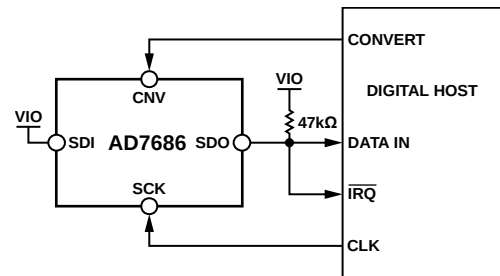
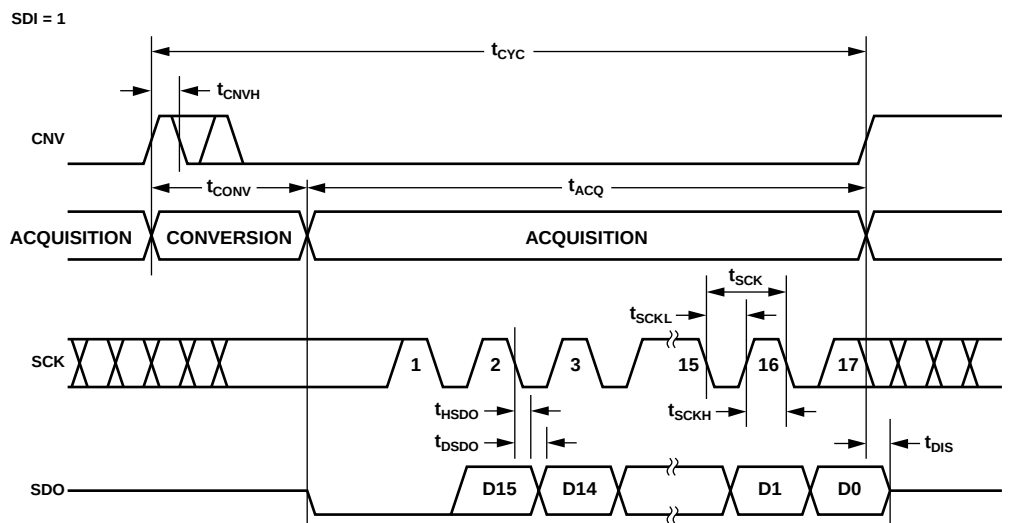
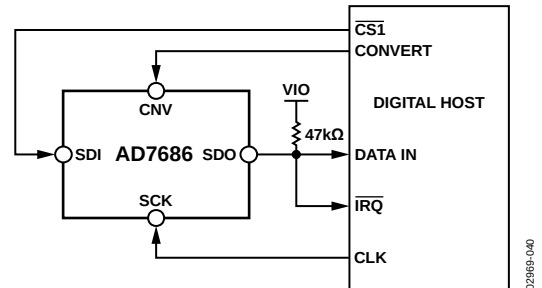
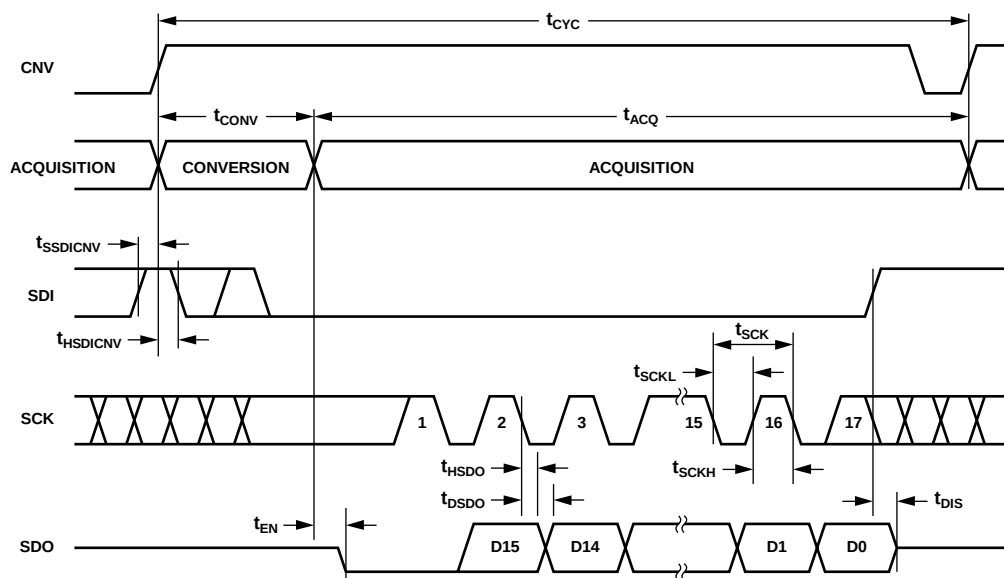

Figure 35. $\overline{\text{CS}}$ Mode 3-Wire with Busy Indicator Connection Diagram (SDI High)
Figure 36. $\overline{\text{CS}}$ Mode 3-Wire with Busy Indicator Serial Interface Timing (SDI High)
Figure 39. $\overline{CS}$ Mode 4-Wire with Busy Indicator Connection Diagram
Figure 40. $\overline{CS}$ Mode 4-Wire with Busy Indicator Serial Interface Timing
- In $\overline{CS}$ mode, if CNV or SDI is low when the ADC conversion ends (see Figure 36 and Figure 40).
This mode is generally used when a single AD7686 is connected to an SPI-compatible digital host having an interrupt input. The connection diagram is shown in Figure 35, and the corresponding timing is provided in Figure 36.
This mode is usually used when a single AD7686 is connected to an SPI-compatible digital host, which has an interrupt input, and when it is desired to keep CNV, which is used to sample the analog input, independent of the signal used to select the data reading. This requirement is particularly important in applications where low jitter on CNV is desired. The connection diagram is shown in Figure 39, and the corresponding timing is provided in Figure 40.